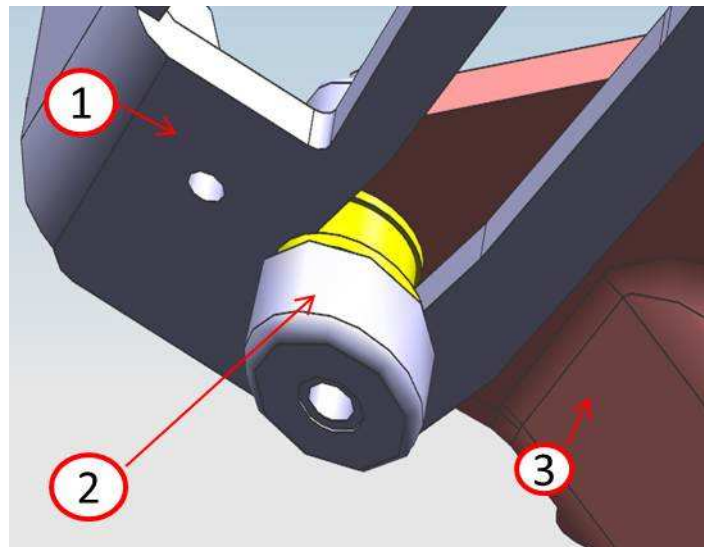

Fig. 4
4. Install new bolt and bushing (Fig. 3.) Locate the riser bracket with the curved slot on the undercut of the bushing (Fig. 4) when reassembling. Tighten bolt to 20 N·m (177 in. lbs).